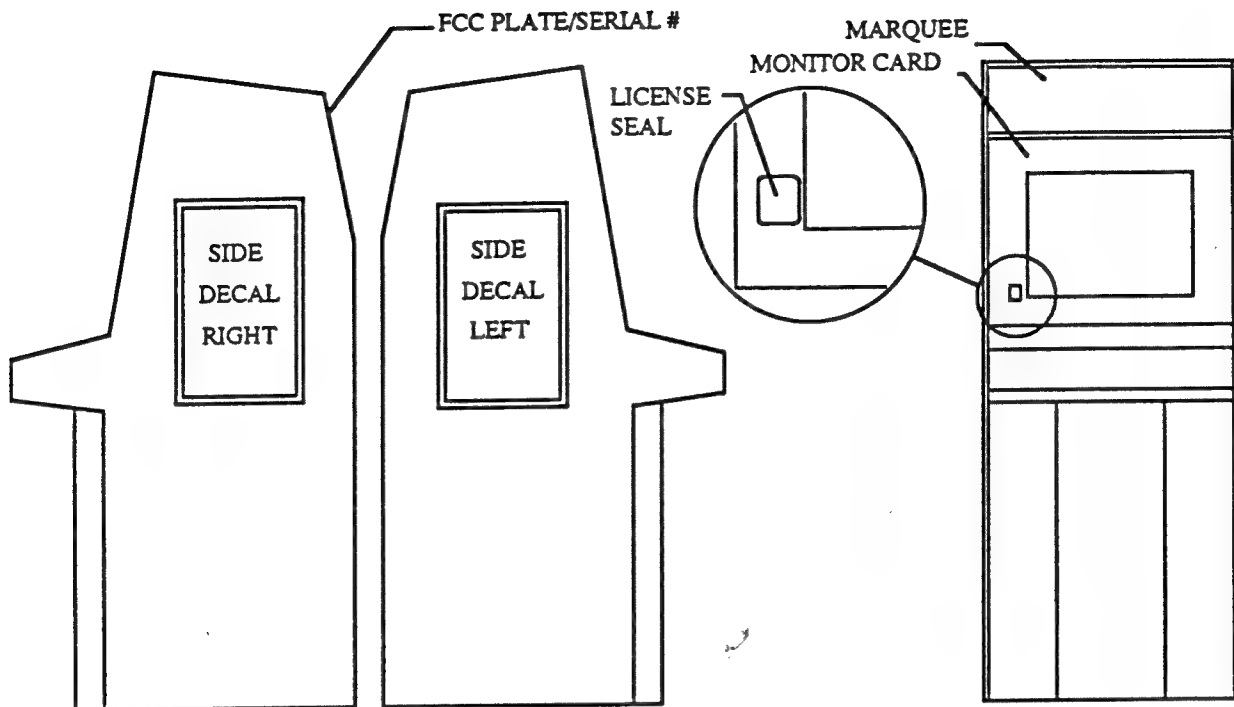

Figure 1
35. Locate the Kit SERIAL NUMBER STICKER and FCC PLATE. Install on the rear of the game cabinet. (see figure 1 )